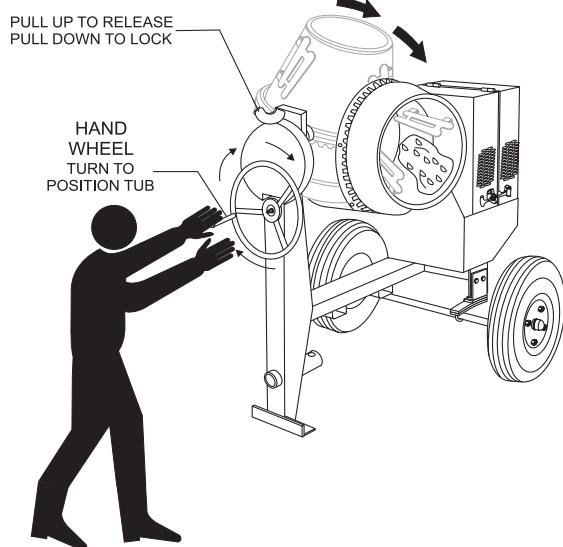

Figure 19. Mixing Drum Positioning
1. To position the tub, make sure the mixer is placed on firm level ground, then ***pull up*** on the ***dump latch*** (Figure 19) and turn the ***hand wheel*** until the tub is at the desired position. Once the tub is at the desired position, ***pull down*** on the dump latch to lock the tub in position.